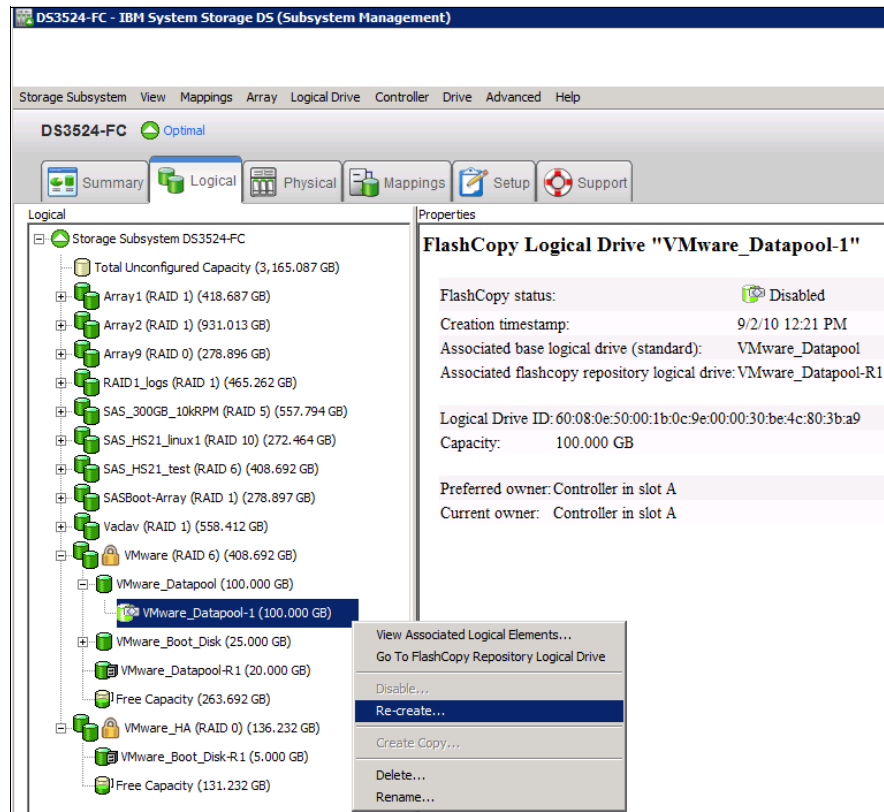

Figure 2-33 FlashCopy logical drive: Recreate
1. Right-click the FlashCopy logical drive and select **Re-Create**, as shown in Figure 2-33.